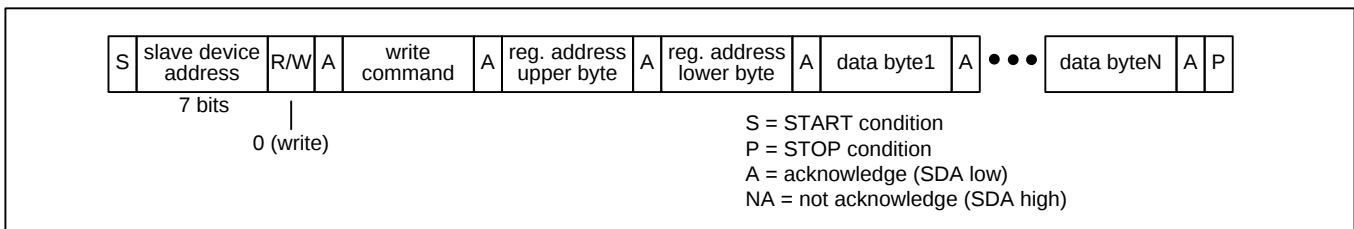

Figure 16 – I²C Register Write Transaction Functional Timing
Register Write Transactions. The device registers are accessible when EESSEL=0. The bus master does an I²C write to the device. The first three bytes of this transaction are the SPI Write command (see Table 4), the upper byte of the register address, and the lower byte of the register address. Subsequent bytes are data bytes to be written. After each data byte is received, the device writes the byte to the write address and then increments the write address. The bus master terminates the write with a STOP condition (P). See Figure 16.